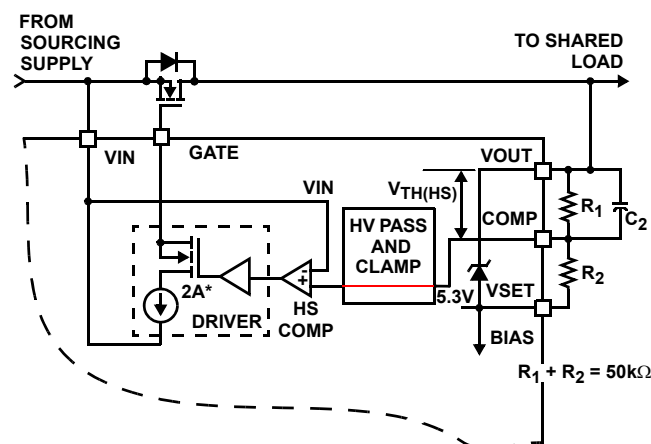

FIGURE 1. HS COMPARATOR
There is a High Speed (HS) Comparator used for fast turn-off of the ORing MOSFET to protect the common bus against hard short faults at a sourcing power supply output (refer to Figure 1).